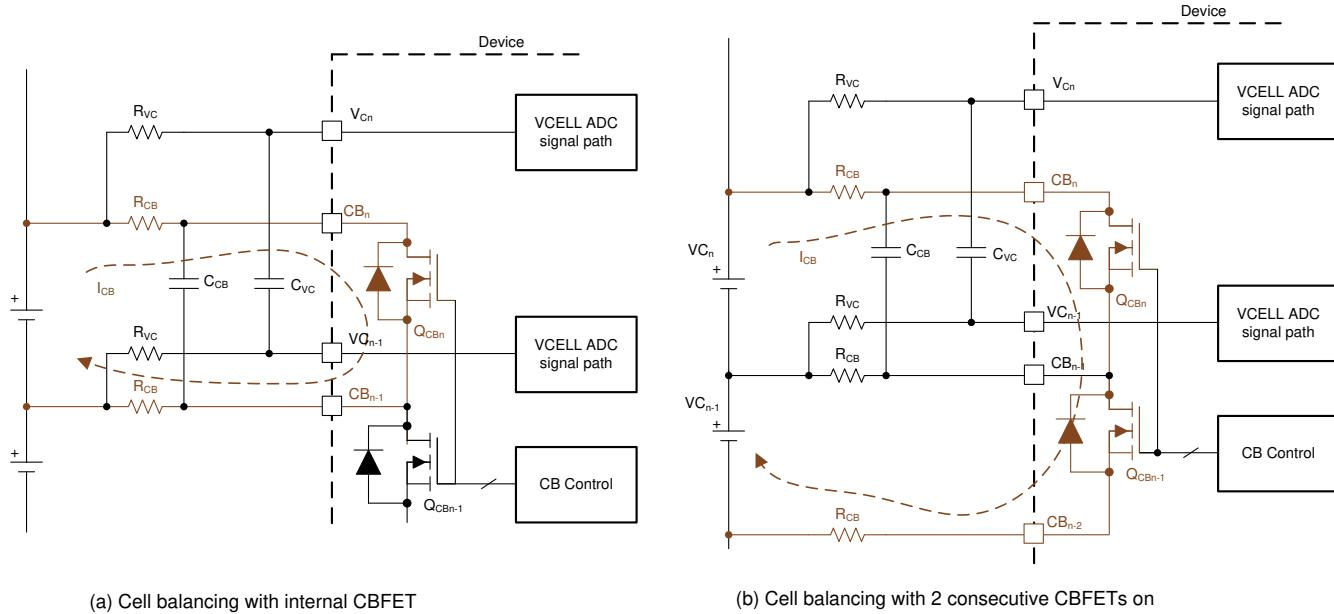

图 8-14. Internal Cell Balancing and the Flow of Balancing Current
- Balancing with no consecutive CBFET on (图 8-14 (a)): $I_{CB} = V_{Cell} / ((2 \times R_{CB}) + R_{dson_{QCB}})$
- Balancing with two consecutive CBFETs on (图 8-14 (b)): $I_{CB} = (\text{Sum of two } V_{CELL}) / ((2 \times R_{CB}) + R_{dson_{QCBn}} + R_{dson_{(QCBn-1)}})$
- Manual balancing control ([AUTO_BAL] = 0): With this method, the device will turn on the CBFETs that have non-zero balancing timer settings once [BAL_GO] = 1 is received. There is no odd and even channel switching during the cell balancing and the BAL_CTRL1[DUTY2:0] setting does not apply under this control. Host MCU can enable two consecutive CBFETs with this method. When two consecutive CBFETs are enabled with both channels connected to battery cells, the balancing current is significantly different compared to no adjacent CBFET being on (图 8-14). The DEV_CONF[NO_ADJ_CB] bit is provided to avoid inadvertent enabling of an adjacent CBFET for a system that is not intended to have an adjacent channel on for balancing. In this control method, the device is relying on the MCU to enable the proper channels. If the MCU sends [BAL_GO] = 1 but the CBFETs are enabled with an invalid condition, the device will not start balancing and will set BAL_STAT[INVALID_CBCONF] = 1. Invalid configurations are either: